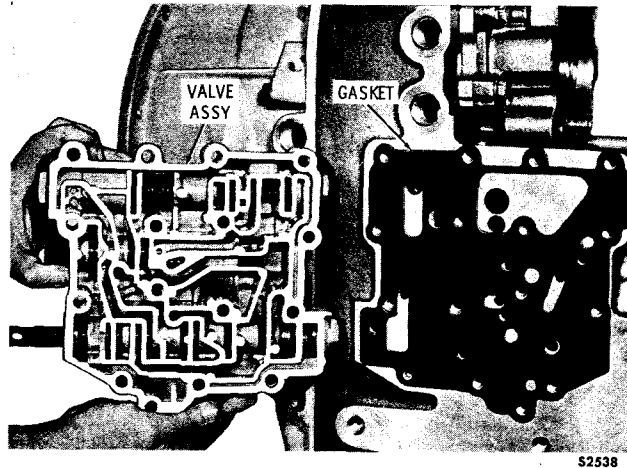

Fig. 7-41. Installing control valve body assembly
(1) Remove the temporarily installed bolt and washer from the valve body mounting pad (fig. 7-15). Install the valve body gasket and retain it with oil-soluble grease (fig. 7-41). Install the control valve body assembly.